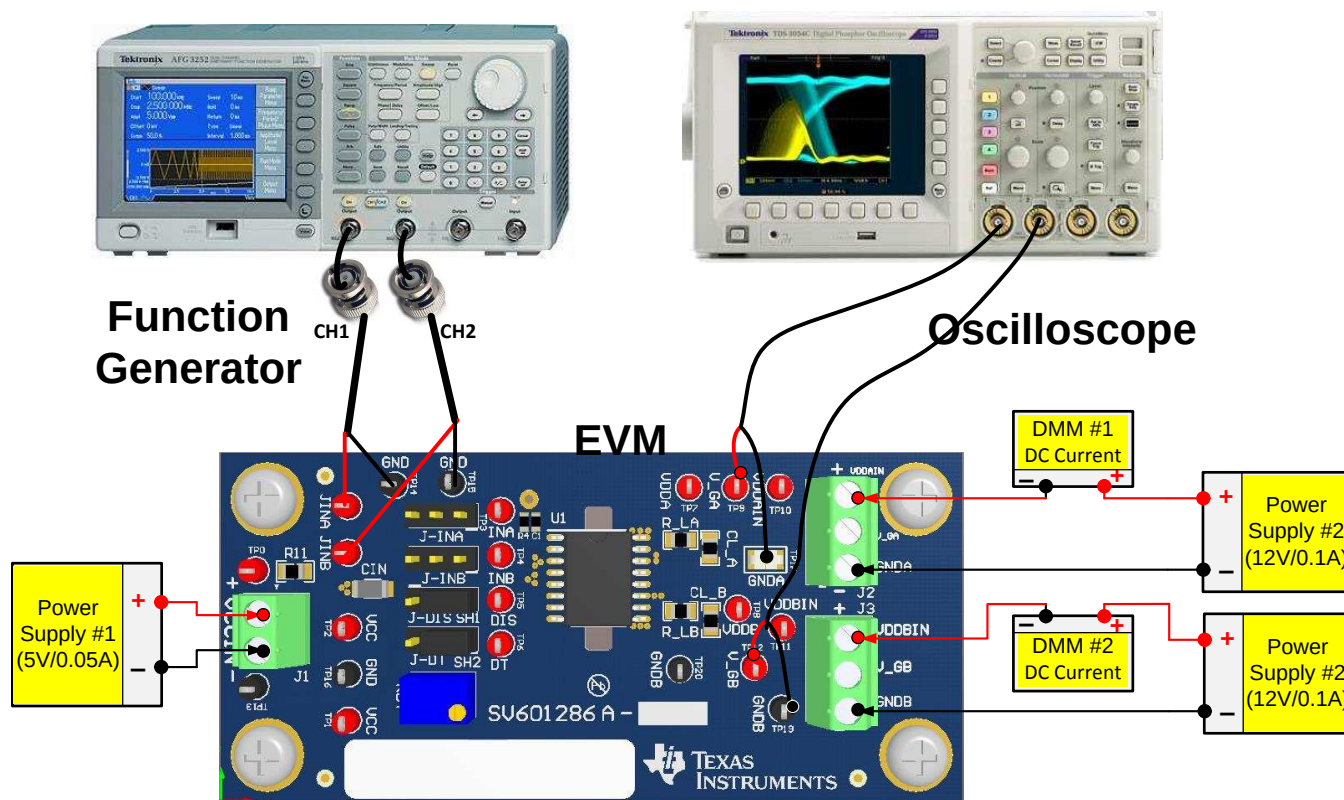

Figure 2. Bench Setup Diagram and Configuration
Follow the connection procedure below and use Figure 2 as a reference:
- Function generator channel-A channel applied on JINA $\longleftrightarrow$ TP14 as seen in Figure 2;
- Function generator channel-B channel applied on JINB $\longleftrightarrow$ TP15 as seen in Figure 2. For the UCC20520EVM, JINB, J-INB and TP15 are not installed because the UCC20520 is a single PWM input, dual-channel output Iso-Driver;